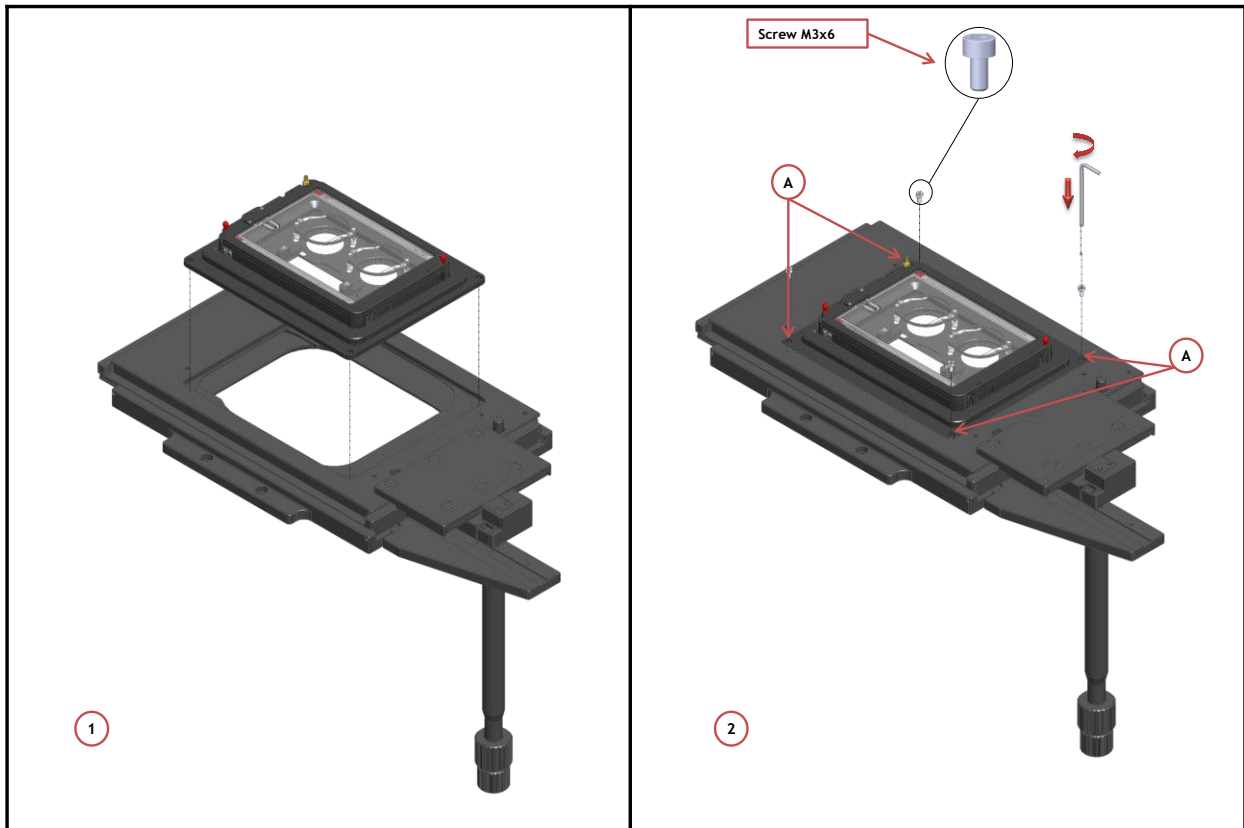

Figure 24. How to fix the H301-OLYMPUS-IX3-SVR to the XY stage.
Once you have assembled the chamber with adapter you can place it on the XY stage, following the steps shown in Figure 24.
1. Place the adapter on the stage (See Image 1 of Figure 24).
2. Follow the instructions shown in Image 2 of Figure 24 for placing socket head cap screws; use the provided Allen wrench for tightening the socket head cap screws and fastening the adapter on the stage. Screws housings are indicated with letter A in Image 2 of Figure 24.